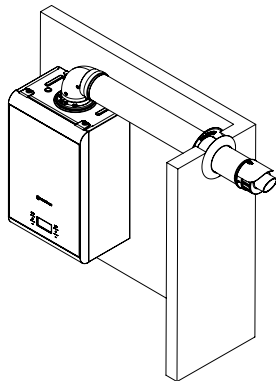

**Figure 33** Hermetic combi boiler concentric flue set.
- Loosen the Flange Gasket Screw (Fig.33\_6) and remove it from the elbow (Fig.33\_1)
- Put the Neoprene Sealing Gasket (Fig.33\_7) under the flange and secure it with 4 screws (Fig.33\_6 and see Picture A)
- Place the flue elbow (90°) (Fig.33\_1) press down and tighten the screw (Fig.33\_6) to secure the flue elbow (see picture B)
- Fit the outer and inner wall flanges (Fig.33\_13-14) on the terminal pipe (Fig.33\_12)